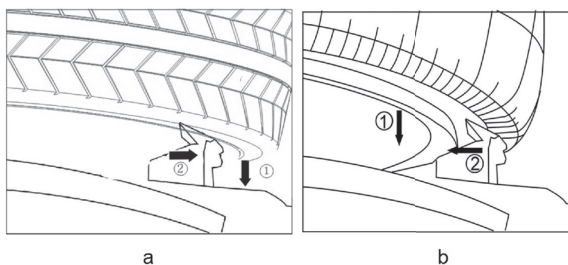

Fig.20
- In case of inward clamping, shrink the jaws together, place the wheel on the turntable and depress pedal B to clamp (Fig.20-a).
- In case of outward clamping, enlarge the jaws outward (2-3cm away from periphery of the rim) and place the wheel on the turntable. Press down the rise/fall control lever to keep the rim close to the jaws, and depress pedal B to clamp it(as fig.20-b) .